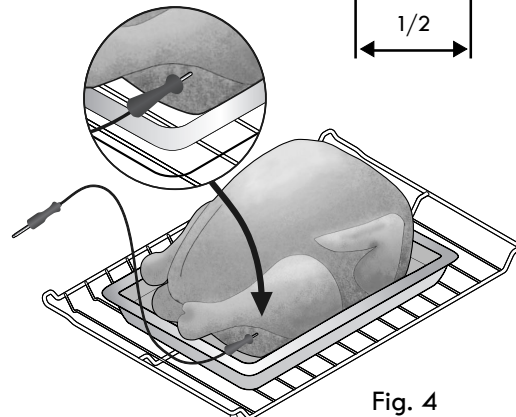

Fig. 4
- For whole poultry or turkey, insert meat probe into the thickest part of inner thigh, below the leg (See Fig. 4).